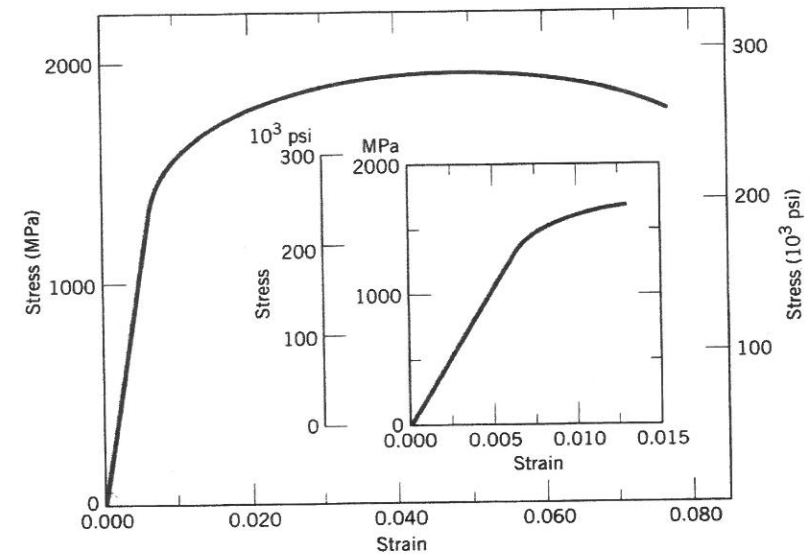

Fig. 1 Tensile stress-strain behavior for an alloy steel
5. (a) A load of 140,000 N is applied to a cylindrical specimen of an alloy steel displaying the stress and strain behavior shown in Fig. 1 that has a cross-sectional diameter of 10 mm. If the original specimen length is 600 mm, how much will it increase in length when this load is applied? (5%)